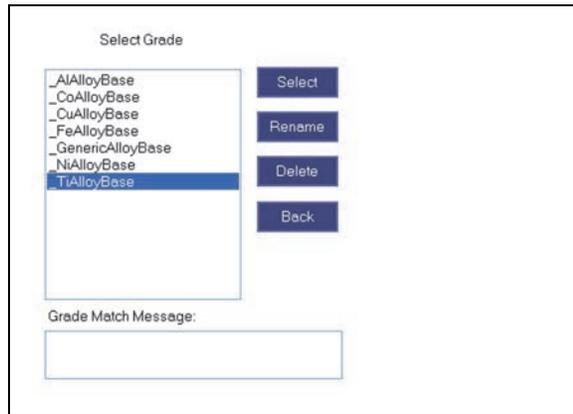

Figure 2-12 The Select Grade pane
- In the **Select Grade** pane, select a grade, and then click **Rename** (see Figure 2-12 on page 57).